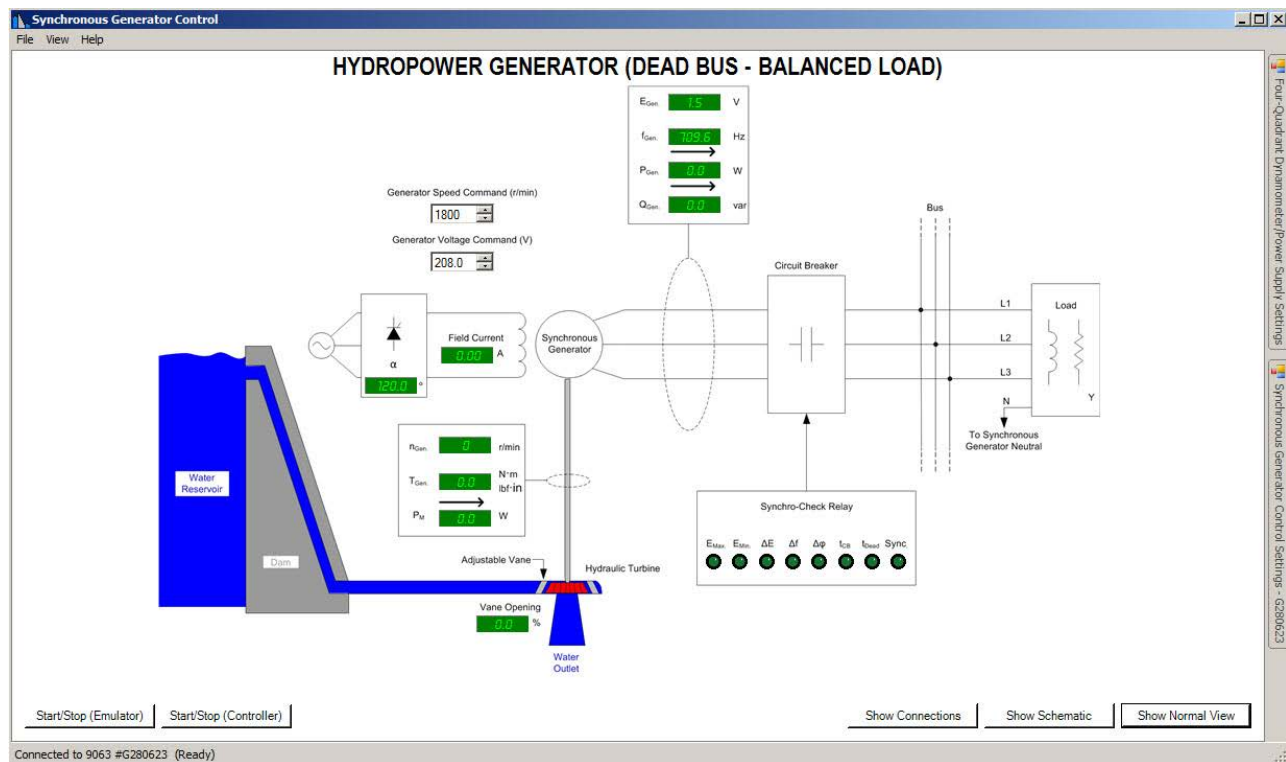

Figure 14: SCADA view of the Hydropower Generator (Dead Bus – Balanced Load) function.
- Clicking Show SCADA View opens a SCADA view of the generator (Figure 14) with additional buttons used, among other things, to start and stop the generator emulator and controller.